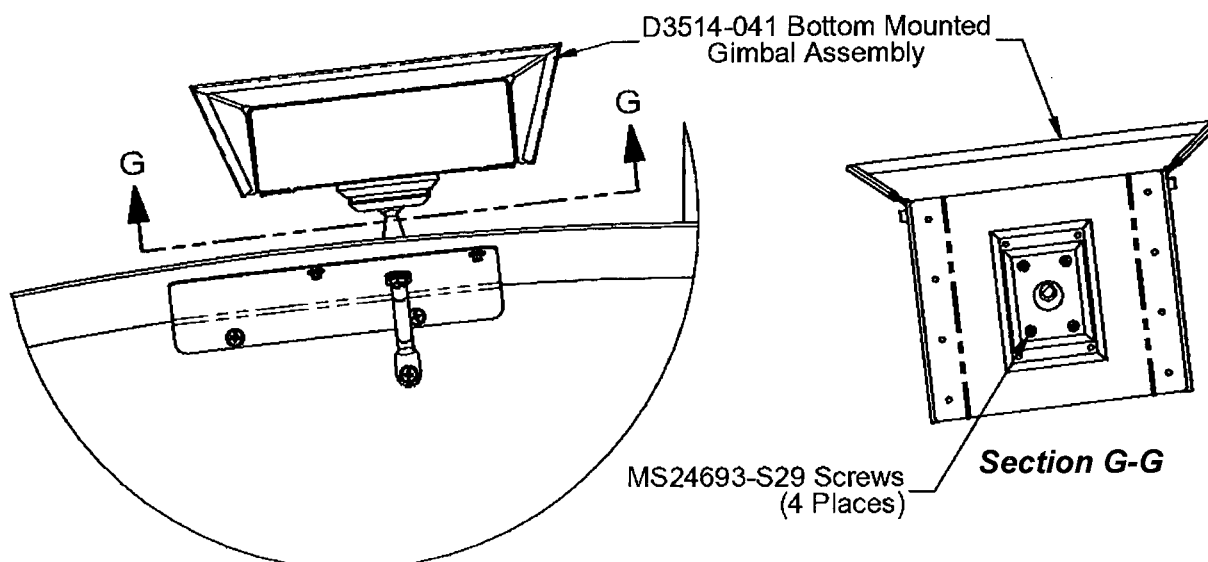

Figure 3.2.6 – Loosen Screws to Adjust Position of Receiver Housing
Note: The Gimbal Mount can be secured in the desired orientation by tightening the qty(4) MS24693-S29 screws found on the D3514-041 Bottom Mounted Gimbal Assembly as shown in **Figure 3.2.6**.